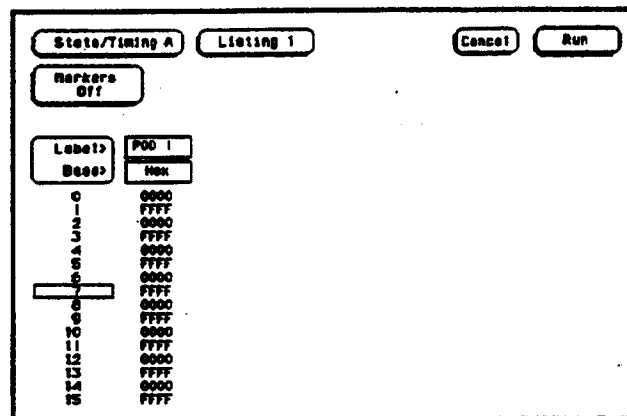

Figure 3-32. Listing Screen
6. Touch Run. The State Listing screen will be displayed and should list alternating F's and 0's as shown in figure 3-32.